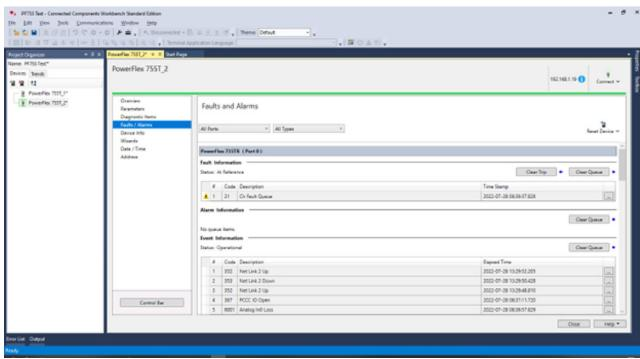

Fig. 29 — CCW Faults and Alarms
- To see faults, select Faults/Alarms from left side menu. The fault can also be cleared from this menu by selecting “Clear Trip.” See Fig. 29.